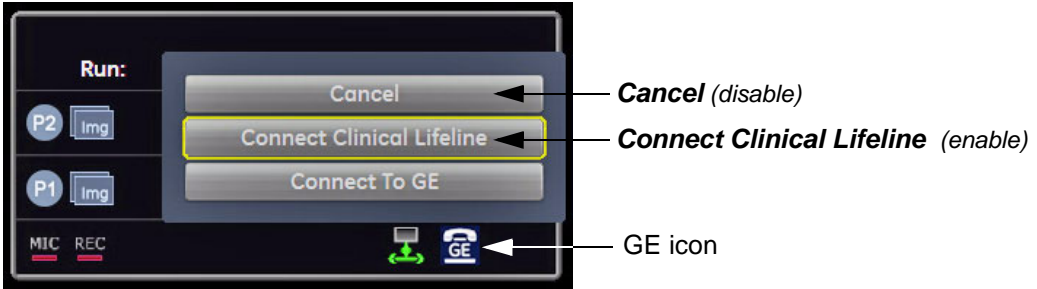

Figure 5-39 Connect Clinical Lifeline
- 3.) Select **Connect Clinical Lifeline** (see: Figure 5-39 below).